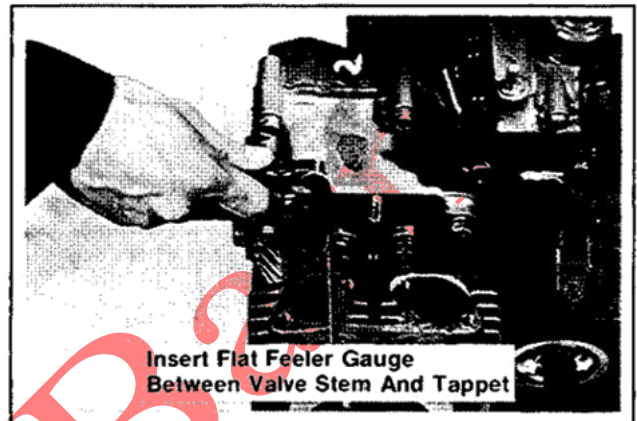

Figure 11-33. Measuring Valve-To-Tappet Clearance.
2. Install valves into valve guides for the cylinder in which **no movement** was observed. Hold valves firmly against seat and measure valve-to-tappet clearance with a flat feeler gauge. Refer to Figure 11-33.